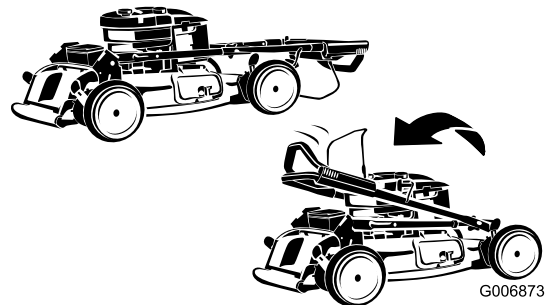

Figure 35
3. Fold the upper handle forward as shown in Figure 35.